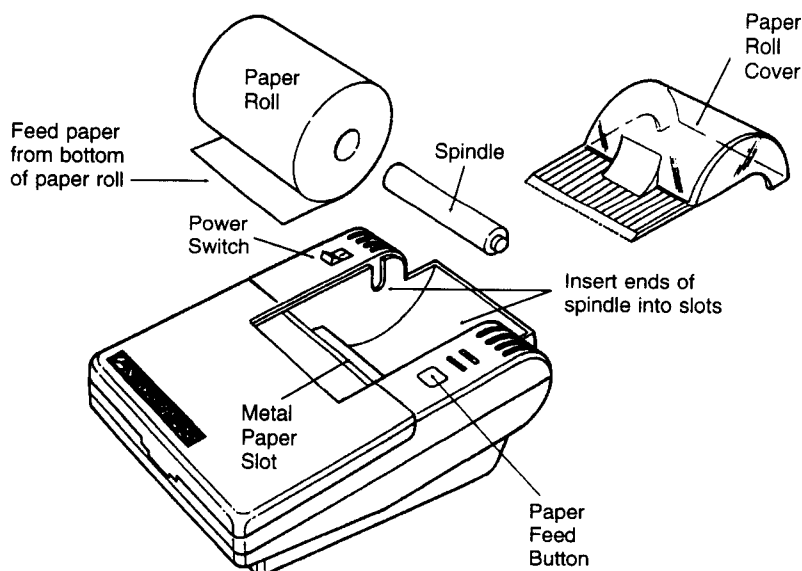

Figure 1-5. Installing the Paper Roll (exploded view)
3. With the paper feeding from the bottom of the roll (see Figure 1-5), guide the end of the paper roll into the metal paper slot on the printer. While feeding the end of the paper into the slot with one hand, hold the paper feed button down until the printer grabs the paper.